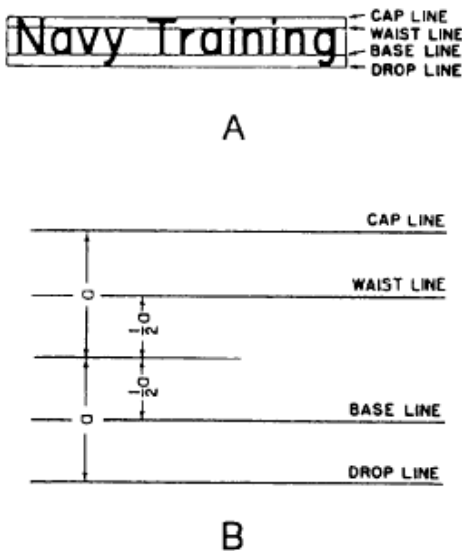

Fig. 4.8 Laying off guidelines
Fig.4.8 (A) shows the use of light pencil lines called guidelines. Guidelines ensure consistency in the size of the letter characters. If your lettering consists of capitals, draw only the cap line and base line. If lowercase letters are included as well, draw the waist line and drop line.
The waist line indicates the upper limit of the lowercase letters. The ascender is the part of the lowercase letter that extends above the body of the letter; for example, the dot portion of the character *i* in Fig.4.8 (A). All ascenders are as high as the caps.
The drop line indicates the lower limit of the lowercase letters. The descender is the part of the lowercase letter that extends below the body of the letter, an example being the tail of the character *g* in Fig.4.8. (A). The vertical distance from the drop line to the base line is the same as the vertical distance from the waist line to the cap line. It is about one third of the vertical distance between the base line and the cap line, or about one half of the vertical distance between the base line and the waist line.
Fig. 4.8. (B), shows an easy way to lay out guidelines for caps and lowercase. Let the height of a capital be  $1\frac{1}{2}$  times the distance " $a$ ". Set a compass or dividers to distance " $a$ " and lay off distance " $a$ " above and below the midline selected for the guidelines, the method locates the cap line and the drop line. Then set the compass or dividers to one half of " $a$ " and lay off this distance above and below the midline. This method locates the waist line and the base line.